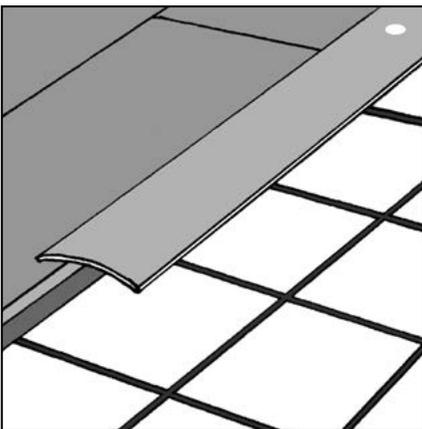

Figure 33 Threshold strip
- ▶ When adjoining other floor coverings, finish in the doorway. An appropriate expansion gap should be left between the interlocking flooring and the adjoining floor covering. This can be covered using a suitable threshold or diminishing strip (fig. 33).